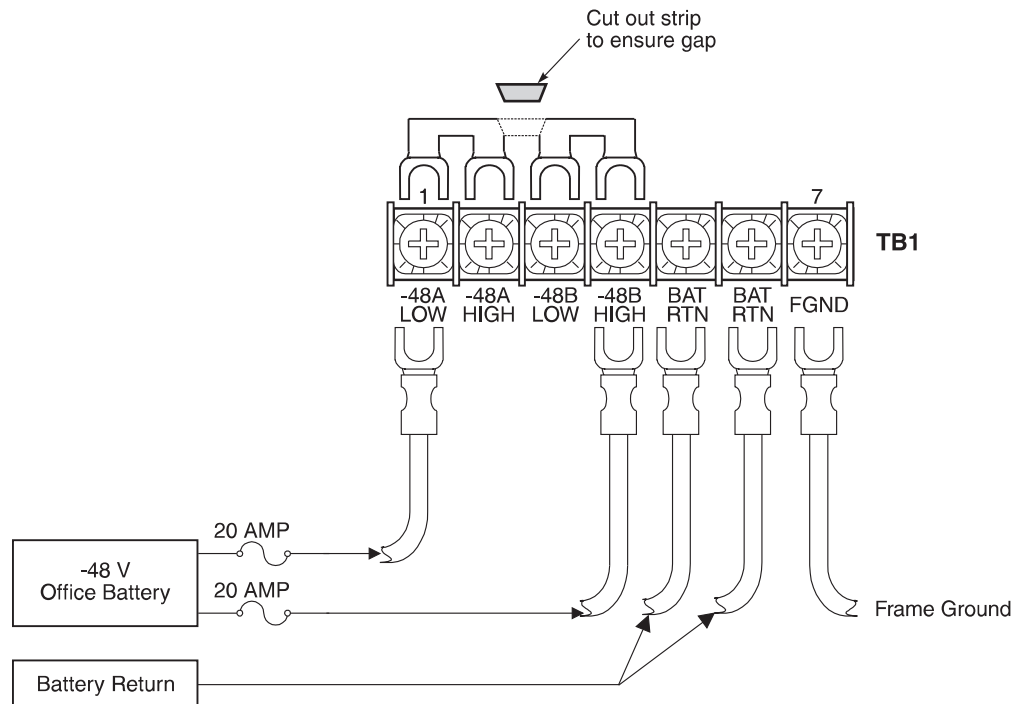

Figure 6 Redundant Shelf Power Wiring
A four-position jumper is in place on the TB1 block (Figure 6). This jumper shorts all of the 48 VDC inputs together to prevent an alarm situation when only one input feed wire is connected. To provide redundant-shelf powering:
- 3 Cut the four-position jumper in half, then cut out a small strip to ensure a gap between the two pieces when they are replaced (see Figure 6).
A four-position jumper is in place on the TB1 block (refer to Figure 6). This jumper shorts all of the 48 VDC inputs together to prevent an alarm situation when only one input feed wire is connected. To provide split-shelf powering:
- 2 Remove the four-position jumper (refer to Figure 6) and discard.